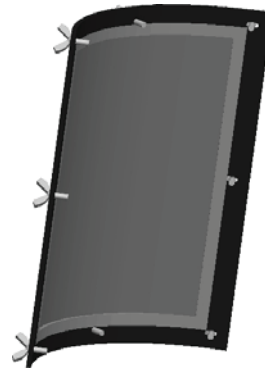

Figure 76
6. Inspect the ceramic gasket (white) and the silicone gasket (gray) attached on the inside of the Inner door for any damage (*see figure 76*). If any damages, you must order one or both gaskets.